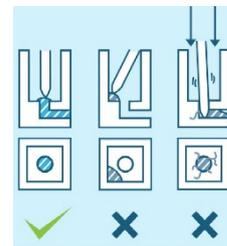

Figure 4: Gel loading
- a. Gently place your pipette tip on top of the hole in the bottom of the well and dispense the gel. Contact between the pipette tip and the hole is essential for gel loading. Correct positioning of the gel on top of hole allows capillary forces to pull the gel into the microfluidic gel channel (see figure 4).
6. Seed 2 µL of cell suspension in the medium inlet (columns 2, 6, 10, 14, 18, 22) using the same pipetting procedure as previously used for gel loading (see figure 4)